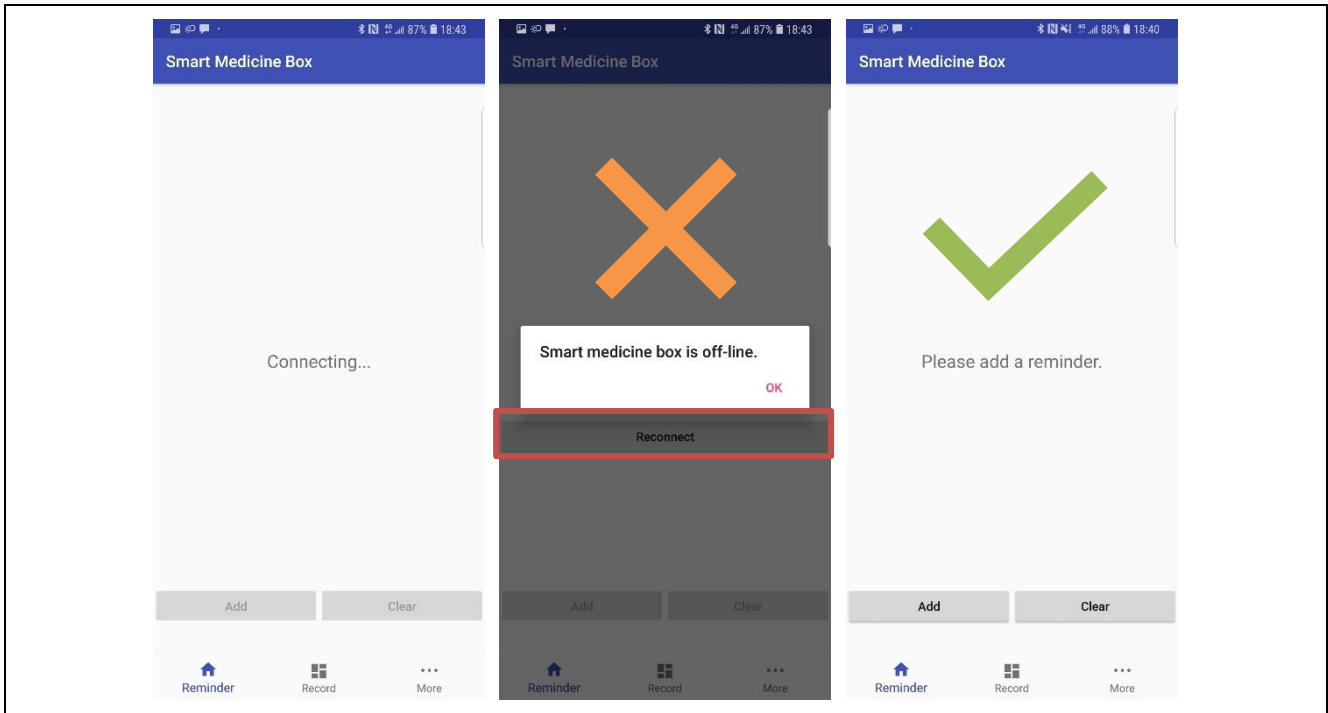

Figure 3.8 Smart Medicine Box On-line Checking
(3) MQTT protocol is used for communication within the smart medicine and mobile phone app. When the smart medicine box is added successfully, the real-time calibration message will be sent to the smart medicine box via MQTT automatically. The RL78/G13 MCU will update the real-time clock to the current time and display the HH:MM on the 4-digit 7-segment LED. At the same time, RL78/G13 will send the response through MQTT to the mobile app to indicate that the smart medicine box is on-line.
The smart medicine box’s on-line or off-line status will be checked automatically. If the smart medicine box is on-line, the “Add” and “Clear” button will be enabled. If the smart medicine box is off-line, check the LED blinking status on the Wi-Fi Module. Check the Wi-Fi and network connection and wait until the LED blinks at 1 second interval, click the “Reconnect” button again. Or go back to (2) to add the smart medicine box again. This setting procedure is shown in Figure 3.8.